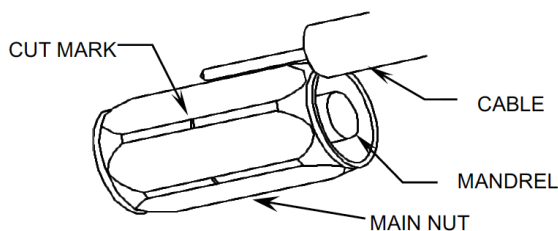
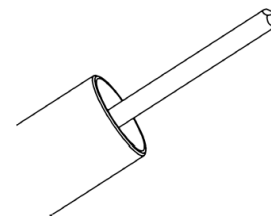

Fig. 4
Fig. 5
**4. Verify cable center conductor length** by using the CUT MARK on the connectors MAIN NUT as shown in Figure 4. Using diagonal cutters, make a cut half way through center conductor then rotate cutters 90° and complete the cut to give a pencil type point as shown in Figure 5.